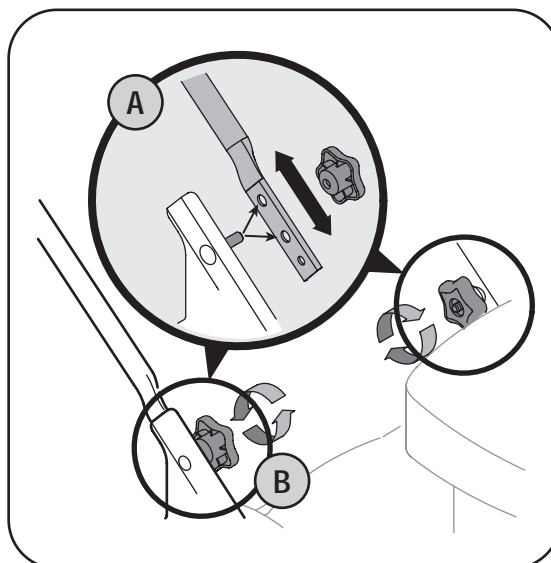

Figure 3-3
3. If satisfied with height of handle, tighten wing nuts at the ends of the lower handle shown in Figure 3-3. For convenience of operating, you may adjust the handle height as follows:
- a. Remove the wing nuts shown in Figure 3-3 and remove the lower handle.
- b. Position each handle bracket stud into the top hole in the lower handle. See Figure 3-3 inset.